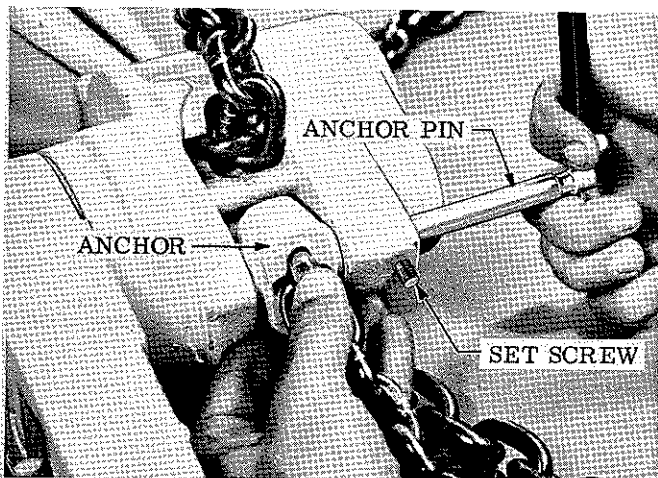

Figure 6-3. Removing Load Chain Anchor Pin using Tool for Pulling
a. At anchor end of load chain, Figure 6-3, remove set screw and pull out chain anchor pin. A hole is provided in end of pin to facilitate its removal. When pin is out, the chain and anchor can be lifted out.